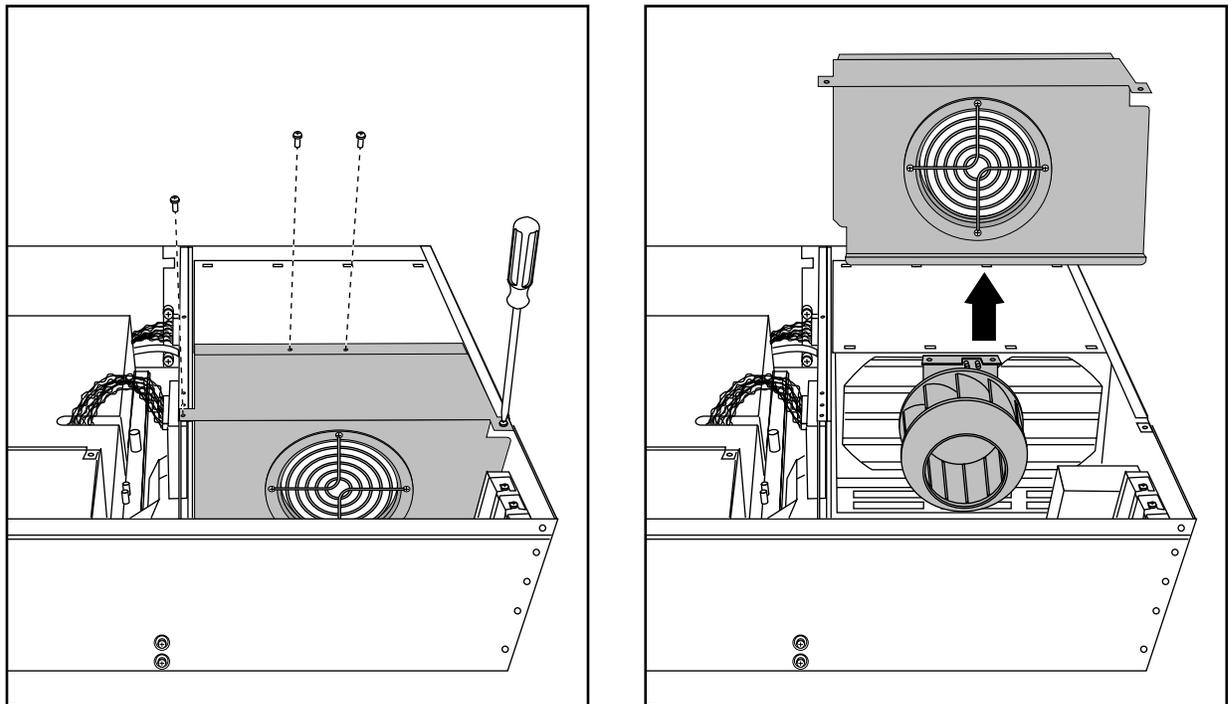

Figure 5-24 Removing the Blower Cover
- Remove the four screws that attach the blower cover to the XIO cardcage, as shown in Figure 5-24.